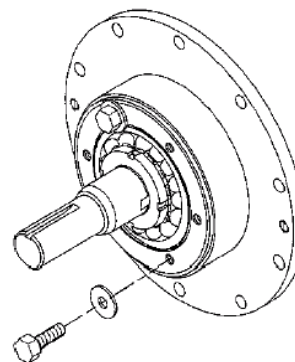

Figure 7 Clamping the Bearing
5. Hand pack the ball bearing (24) with grease. Refer to the "Lubrication" section for the recommended grease.
6. Install the bearing into the head recess with the bearing balls facing outward, and the grease shield inward. Ensure the bearing is fully and squarely seated against the mechanical seal. Install two 3/8" (10 mm) washers and two bearing cover capscrews (28) to clamp the bearing for proper bearing locknut adjustment (see Figure 7). The washers and capscrews will be removed after the locknuts are adjusted. Leave the two capscrews and washer in place to retain the bearing during assembly.